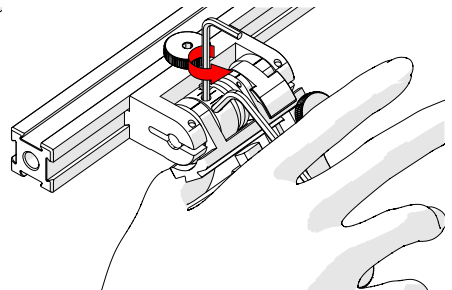

Fig. 58 - Press 3 mm hex wrench down
5. Lightly press the long arm of the 3 mm hex wrench down. Using the 2 mm hex wrench, loosen the force adjustment screw but do not remove it (Fig. 58).